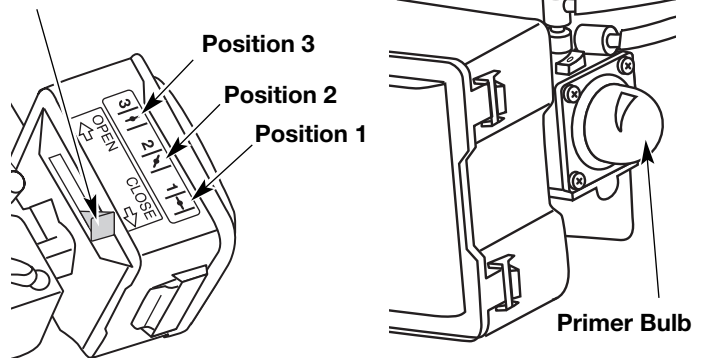

Fig. 11
5. Fully press and release the primer bulb 10 times, slowly. Some amount of **fuel should be visible in the primer bulb** and fuel lines (Fig. 11). If you can't see fuel in the bulb, press and release the bulb as many times as it takes before you can see fuel in it.